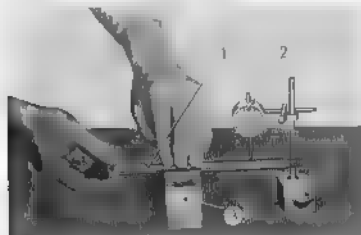

Fig. 4.89 Measuring bend of axle
2. Check the front axle for wear and bend (Fig. 4.89)